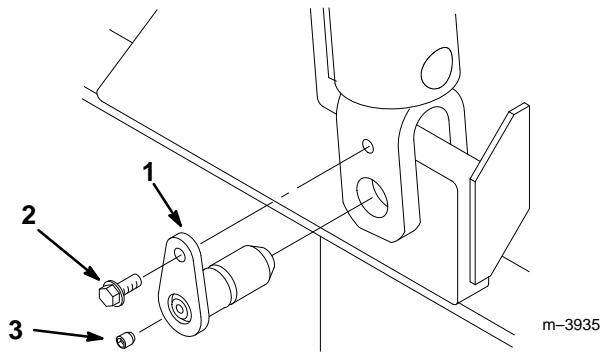

Figure 2
5. Install the new pivot pin using the bolt removed in step 3 (Fig. 2).
9. Remove the grease fitting and replace it with the hex set-screw (Fig. 2).